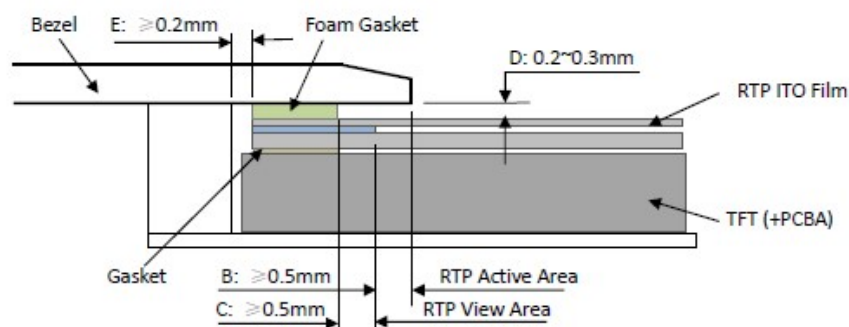

Figure 4
- It should bezel touching the RTP Active Area (A.A.) to prevent abnormal touch. It should left gap D=0.2~0.3mm in between. (Figure 4)
- Outer bezel design should take care about the area outside the A.A. Those areas contain circuit wires which is having different thickness. Touching those areas could de-form the ITO film. As a result bezel the ITO film be damaged and shorten its lifetime. It is suggested to protect those areas with gasket (between the bezel and RTP). The suggested figures are $B \geq 0.50\text{mm}$; $C \geq 0.50\text{mm}$. (Figure 4)
- The bezel side wall should keep space E= 0.2 ~ 0.3mm from the RTP. (Figure 4)
- 为避免面框直接压在动作区 (A. A.) 上造成误动作，面框与电阻触摸屏 (RTP) 之间应留有一定的空隙 D=0.2~0.3mm 之间。(附图 4)
- 设计面框时，要注意用面框保护触摸屏四周的非保证操作区域，因为布线区域在此处形成一台阶，在此区域附近操作时 ITO Film 变形较大，容易导致 ITO 损坏而降低寿命。为保护 RTP 和避免误操作，在 RTP 与面框之间垫缓冲物 (Gasket)，我们建议设计面框应覆盖动作区的边缘，面框边缘到 V. A. 区的距离 $B \geq 0.50\text{mm}$ ；垫圈内边缘到 V. A. 区的距离 $C \geq 0.50\text{mm}$ 。(附图 4)
- 在设计面框与 RTP 组装时，应考虑到面框内侧与 RTP 外侧的间距 $E \geq 0.2\text{mm}$ 。(附图 4)